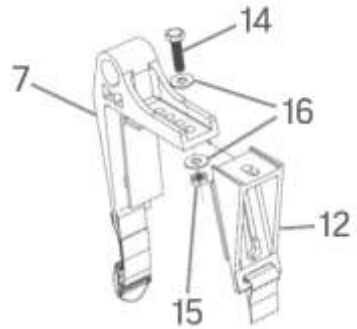

Fig. 2
8. Slide the rear brackets (#12) under the L-brackets, making sure to correctly place the rear bracket with left tailgate strap (#2), which includes an extra buckle for the bumper strap, and the rear bracket with right tailgate strap (#3) (Fig. 2).
9. Secure loosely with bracket bolts (#14), bracket washers (#16) and bracket nuts (#15) (Fig. 2).